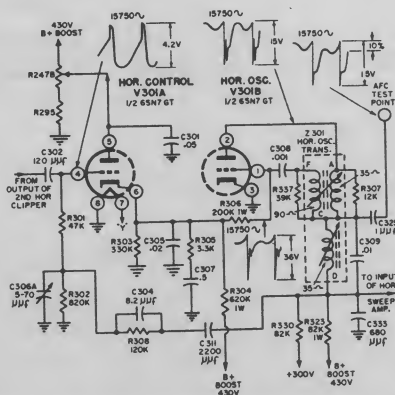

Fig. 3-13. Blocking oscillator; DuMont RA160 and 162.
The transformer used (refer to Fig. 3-13, winding A-C-F) is a slug-tuned autotransformer type. The slug tuning, which uses a powdered-iron core, provides a means for setting the coarse frequency adjustment so that a better range can be covered by the vernier or horizontal hold control. The additional winding C-D of the transformer is a stabilizing coil similar in operation to the ringing coil used in the cathode-coupled horizontal oscillator discussed previously. The combination of C309 with this coil
a. *Identification.* This circuit usually incorporates a dual triode with one triode acting as the oscillator, as shown in Fig. 3-13, and the other triode as the control tube. The oscillator transformer is usually a four-terminal coil with an adjustment at either end. Some manufacturers separate the ringing coil from the oscillator section and mount the coils so that both adjustments are on the back panel.
*b. Control Voltage.* The triode control tube section regulates the oscillator frequency by changing the bias on the oscillator tube. This can be accomplished by feeding the control voltage to the oscillator cathode. The usual method is with a common cathode resistor. Control voltage can also be fed to the oscillator grid as shown in Fig. 3-13.
- (1) Set horizontal hold control fully clockwise.
- (2) Adjust oscillator coil to give a single picture with the horizontal blanking bar near the center. If a ringing coil or a waveform circuit is used in conjunction with the oscillator coil, it may be impossible to sync picture at all unless the waveform adjustment on this coil is turned counterclockwise (out of coil), a few turns at a time, while trying to sync the circuit. In extreme cases the ringing coil may be shorted out (Fig. 3-13, pins *C* and *D*) while servicing this section.
- (3) Turn horizontal hold control fully counterclockwise and throw picture out of sync. If necessary, switch off-channel or slightly turn oscillator coil adjustment to throw picture out of sync.
- (4) Advance hold control slowly clockwise and note the number of horizontal blanking bars
(5) Waveform adjustment (when used) is made by connecting a low-capacitance probe or small capacity in series with regular probe of an oscilloscope to point *C* of the oscillator transformer. (Fig. 3-13). Adjust the waveform adjustment until equal peaks, or peaks as shown for this point in Fig. 3-13, are obtained. The picture should be maintained in sync at all times with the oscillator adjustment on the coil.
(6) Disconnect scope and repeat steps 1 and 2. Then the hold control should be adjusted until picture locks in. Connect scope again and check waveform. Repeat steps 5 and 6 until both conditions are met. If necessary, repeat steps 3 and 4.